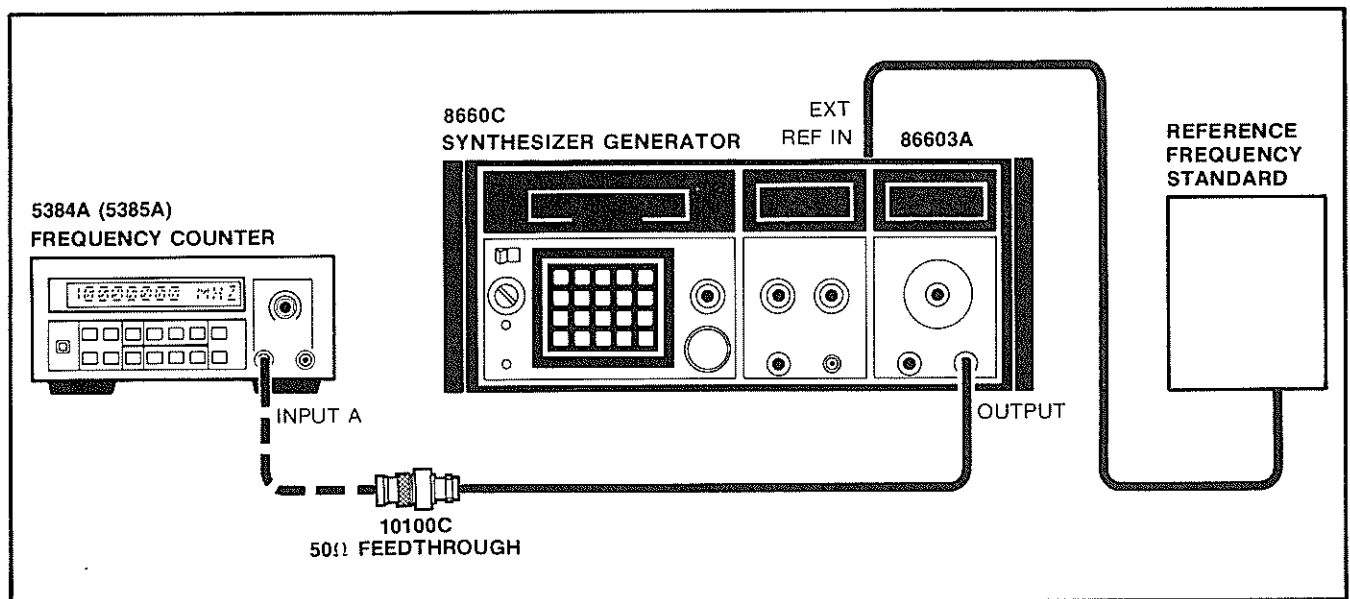

Figure 5-9. Oven Oscillator Adjustment
d. Connect the output of an 8660C to the 5384A/5385A Channel A Input BNC through a 50-ohm feedthrough as shown in *Figure 5-9*.